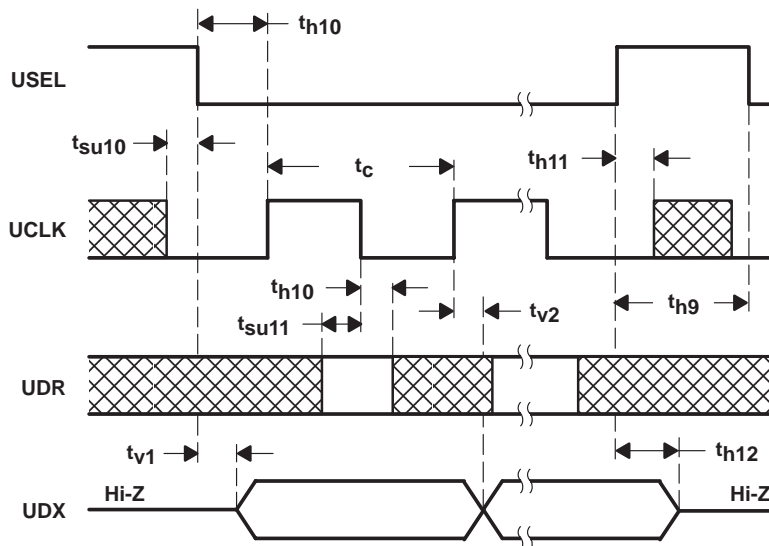

Figure 3. Microcontroller Serial Interface Timing Waveforms (Mode Rising Edge Without Delay)
**MCU serial interface timing requirements (see Figure 3)**
Figure 3 shows the timing diagram for the microcontroller serial interface.